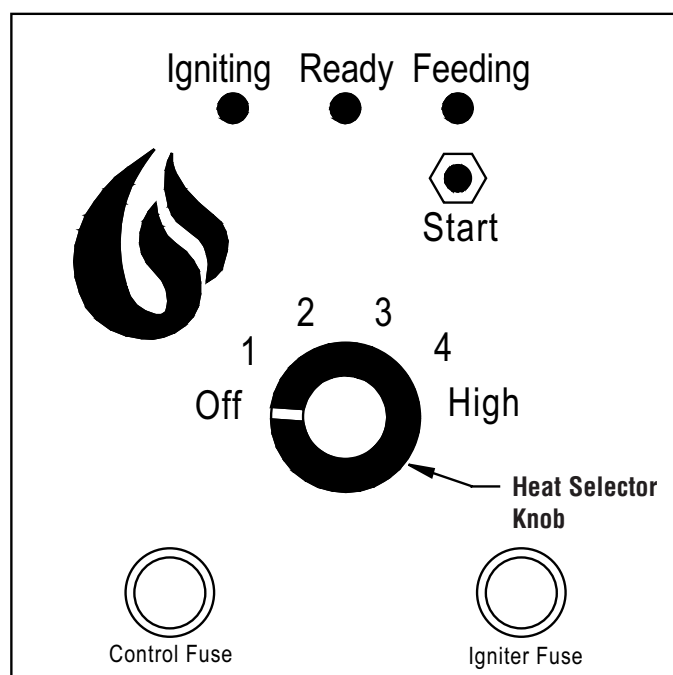

Figure 34
1. Turn the heat selector knob (see **Figure 34**) to the heat level desired - 1 through high - and the ready light will turn green.